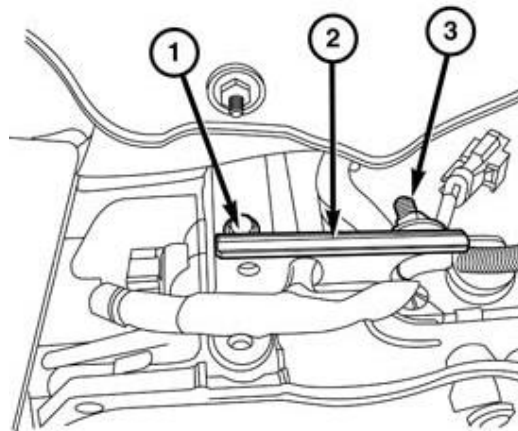

Figure 25 – 13-pin Connector Bracket
61. Remove the 13-pin connector bracket (2) from the transmission case and exhaust (Figure 25).